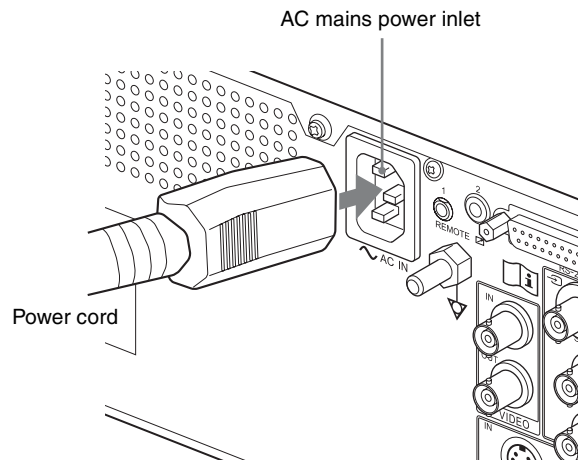

Figure 2.4
- 2 Connect the power cord provided with the mobile workstation to the AC mains power inlet of the color video printer (OEP-5) (see Figure 2.4).